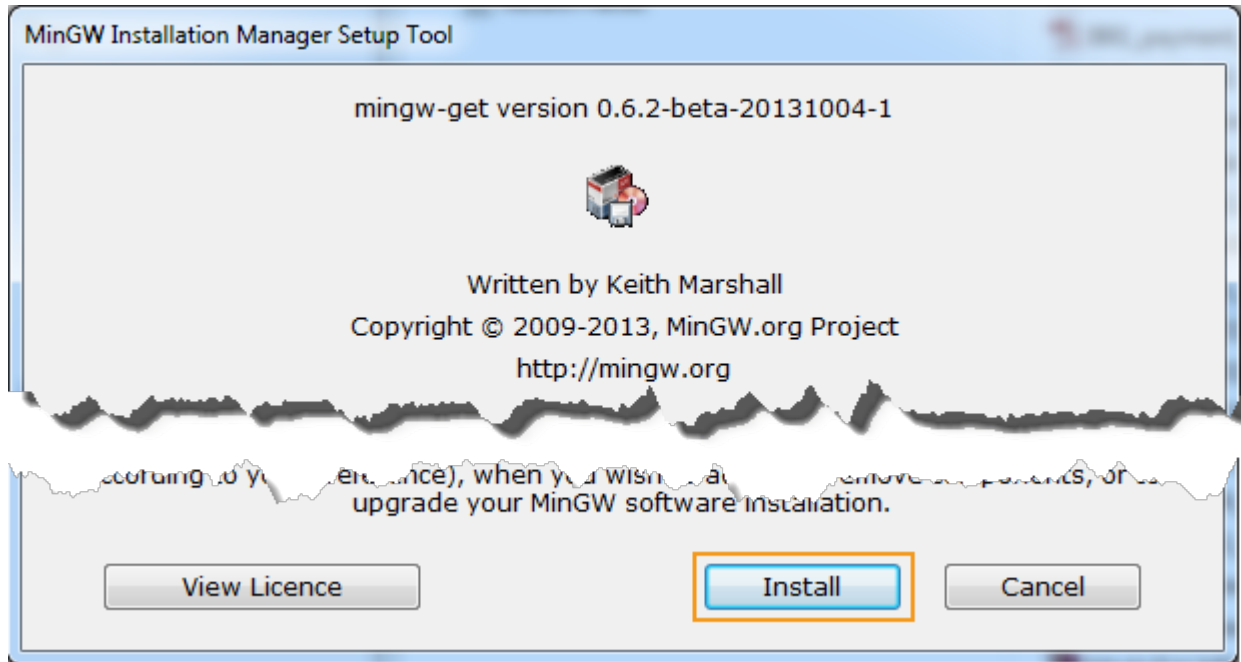

Figure 15. MinGW Installation Manager Setup Tool
- 2) Launch the installer, and click **Install** (see Figure 15).